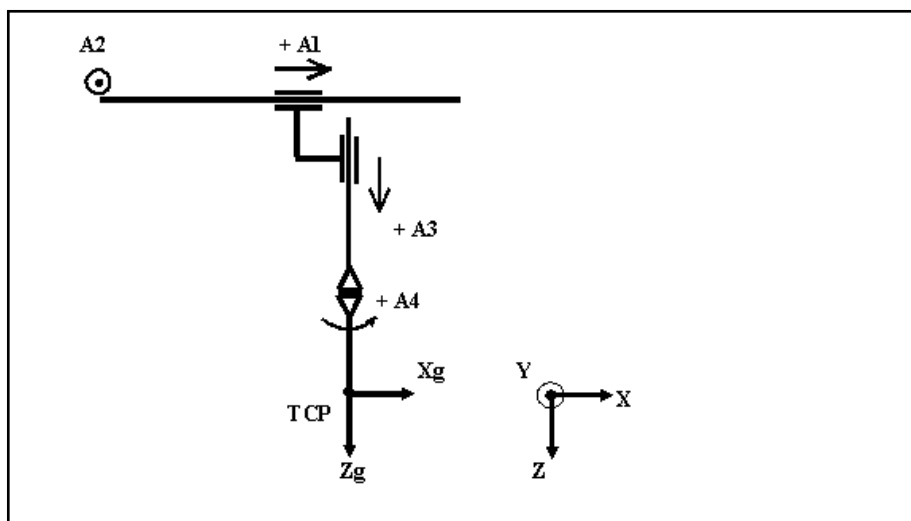

Fig. 18-2: Robot type 0, a typical X-Y-Z-C Cartesian system
- fig. 18-2 "Robot type 0, a typical X-Y-Z-C Cartesian system" on page 256.